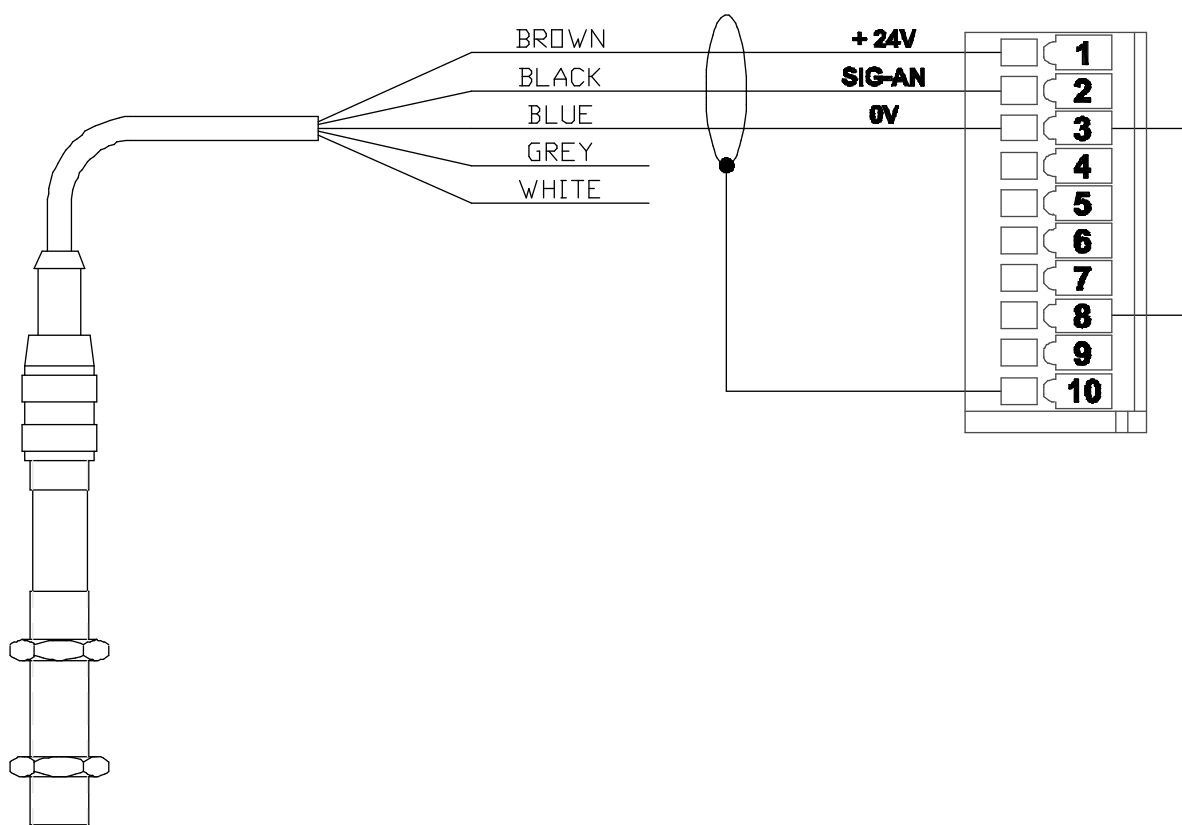

Figure 5-31. D12 Sensor
3. Connect other end of cable to MCP-25/MS control as shown in Figure 5-31.